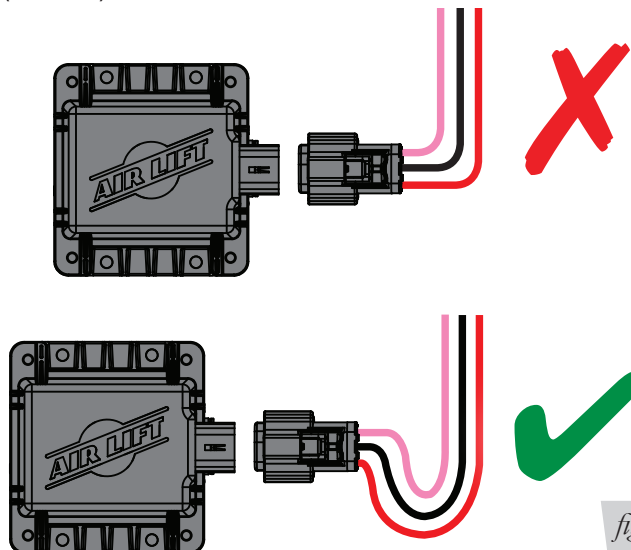

fig. 4
3. Connect the wiring harness (E) to the manifold (B) (Fig. 2). Press the connector on completely and listen for an audible "click". Ensure a proper drip loop exists to prevent water intrusion (Fig. 4). Install the fuse (G) last. The system will automatically fill to 5 PSI (.34BAR) once the fuse is installed.